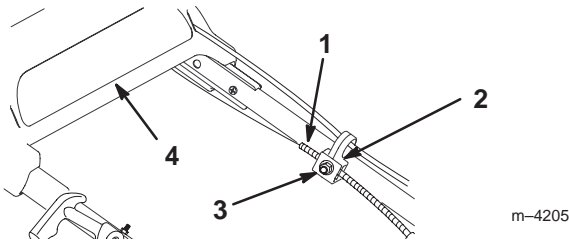

Figure 23
2. Loosen the cable support nut (Fig. 23).
5. While holding the drive bracket down, pull the cable jacket down (toward the lawn mower) until the upper handle retracts as far as possible and there is no slack in the cable (Fig. 23).
7. Tighten the nut on the cable support (Fig. 23).